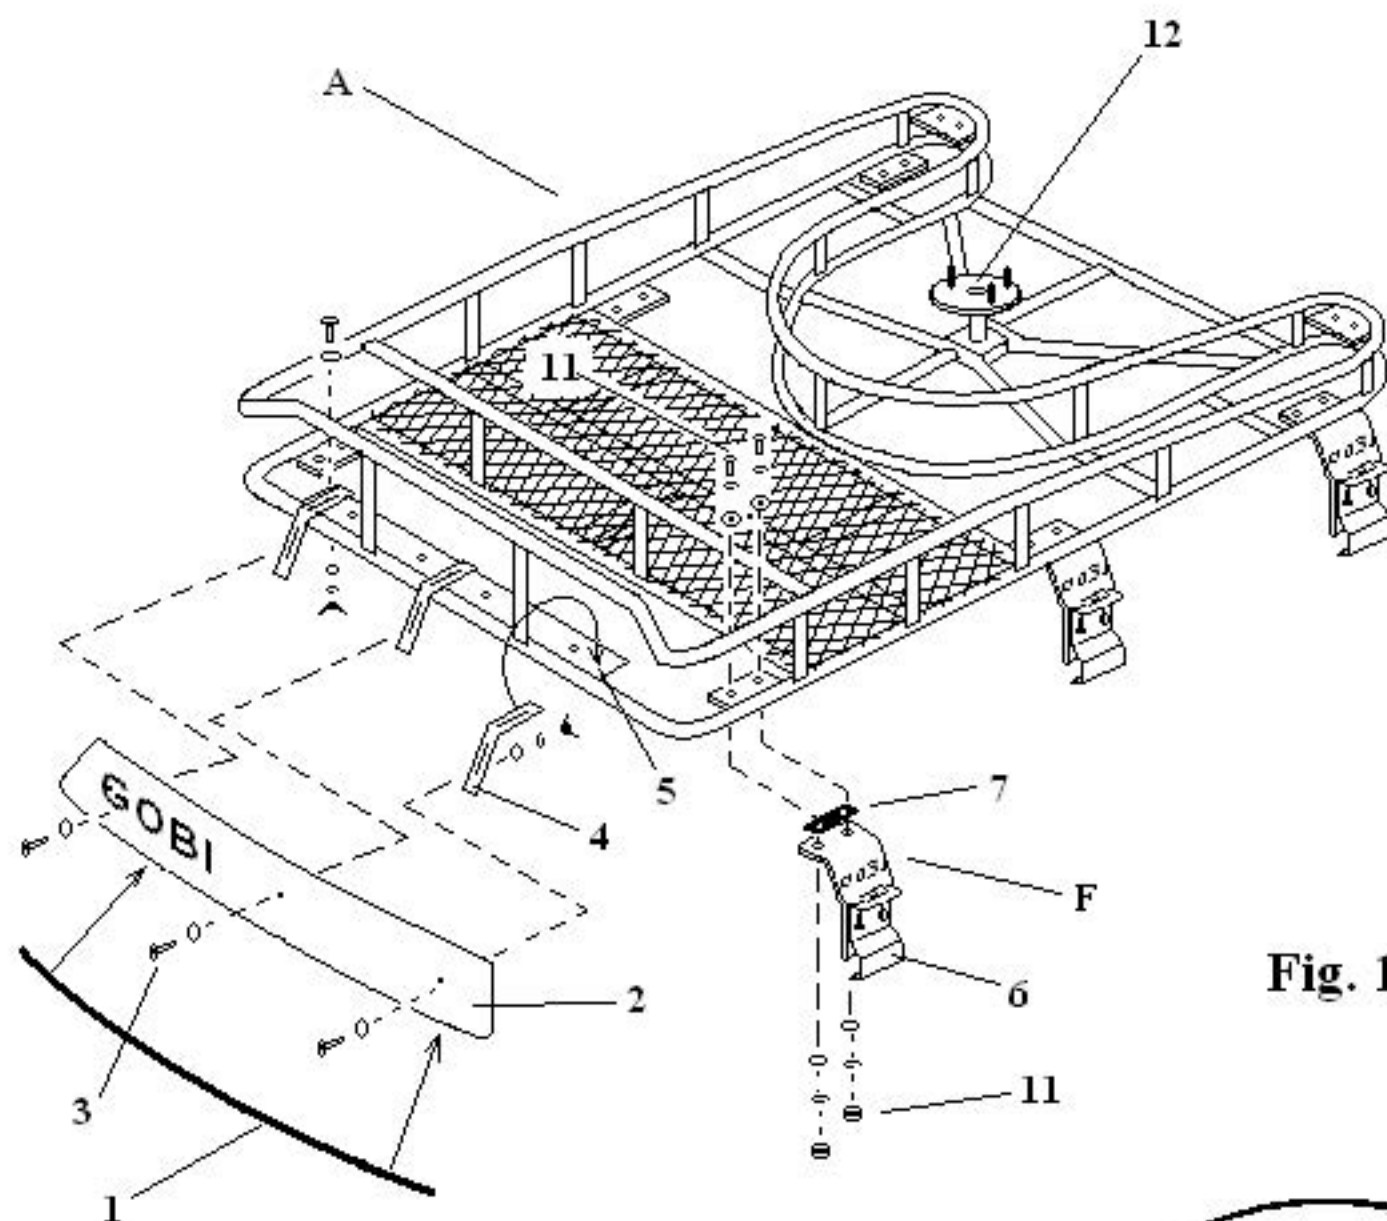
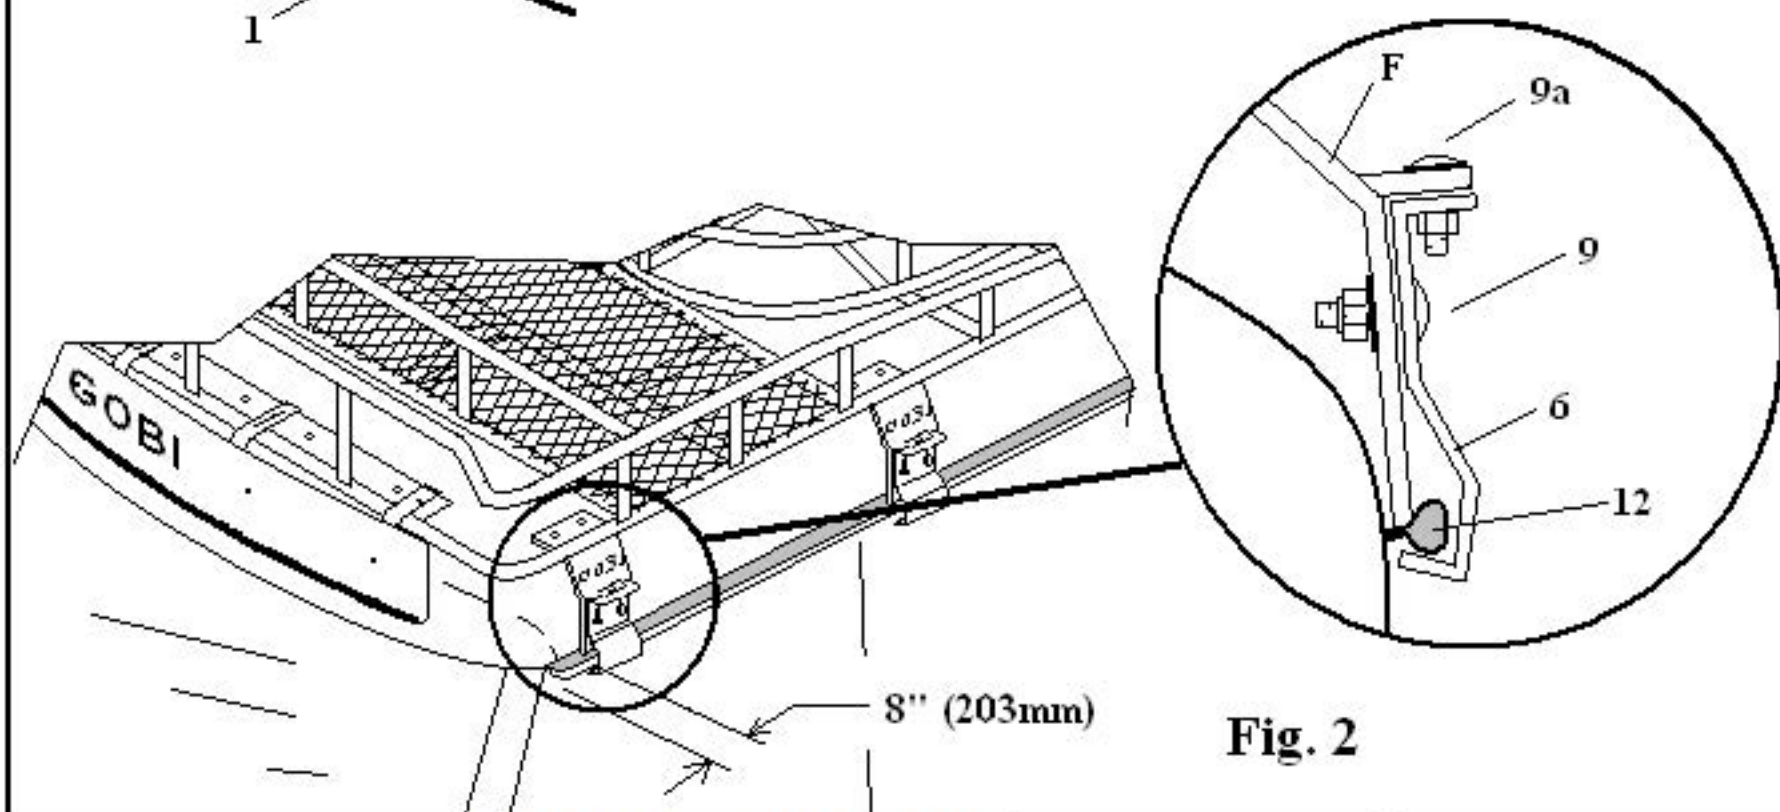

Fig. 1
Fig. 2
- 1- Plastic Bag labeled #1 remove contents and press rubber protective strip #1 onto bottom of fairing #2 as shown on page 6 Fig. 1.
- 2- Plastic Bag labeled #2 remove contents and place black button head screw #3 thru black washer and then thru fairing #2. Place fairing onto bracket #4 and attach black washer, lock washer and wing nut finger tighten only. Attach all 3 brackets as shown on page 6 Fig. 1 but do not attach fairing to rack at this time.
- 4- Plastic Bag labeled #3 remove contents and attach all 6 Gobi Support brackets "F" to roof rack "A" in the direction shown in the illustration Fig. 1 page 6 be sure to place rubber pad #7 between Gobi Support Bracket "F" and roof rack welded in brackets as shown in fig. 1 page 6. Finger tighten bolts and nuts only at this time.
- 5- Place the complete Gobi roof rack with attached brackets "F" on top of your vehicles roof be sure to place all 6 Gobi brackets "F" into vehicle roof gutter. (Make sure the tire support hub nut found under your Gobi roof rack directly below #12 Fig. 1 page 6 is not in contact with your vehicle original roof rack cross bars). If contact is made slide your factory cross bars in a position away from the tire hub support nut but maintain the factory cross bar within close proximity to the tire hub support nut. Once all 6 Gobi brackets are seated into vehicle gutter slide rack either towards the front or rear of the vehicle so that a distance of approximately 8 inches (203mm) is measured between the front of the first Gobi bracket "F" and the forward beginning of the roof rack gutter as shown in Fig. 2 page 6. If by sliding your Gobi roof rack towards the front or rear of your vehicle causes the Gobi racks tire hub support nut to make contact with the factory cross bars reposition your factory cross bars to prevent contact once again.
- 6- After the Gobi roof rack has been positioned properly onto the vehicles roof and all Gobi support brackets "F" are seated into the vehicles roof gutter be sure that each Gobi support bracket clamp #6 as shown in Fig. 2 page 6 has been positioned under roof gutter #12 also shown in Fig. 2 page 6. Snug down but remove all play from carriage bolts #9 of clamp #6 while still maintaining that clamp #6 is under roof gutter #12 Fig. 2 page 6. After all carriage bolts have been snugged down, tighten down all support bracket clamp bolts #9a in Fig. 2 page 6 so that clamp #6 has been tightened securely to roof gutter #12 Fig. 2 page 6. Do not over tighten clamp as you may damage the vehicles roof gutter. Once all clamp screws #9a have been tightened go back and completely tighten and secure carriage bolts #9.
- 7- Completely tighten all bolts and nuts #11 to securely anchor roof rack "A" to Gobi support brackets "F" as shown in Fig. 1 page 6.